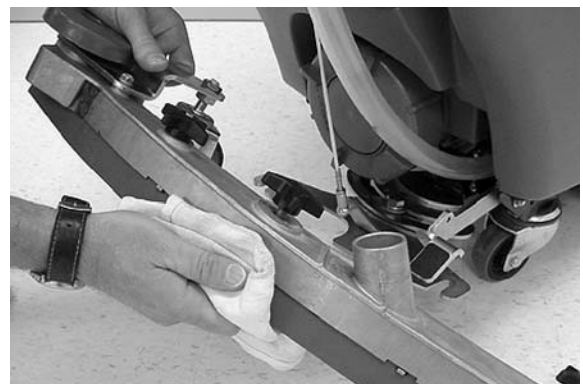

FIG. 42
6. Wipe the squeegee blades clean (Figure 42). Store the squeegee assembly in the raised position to prevent blade damage.